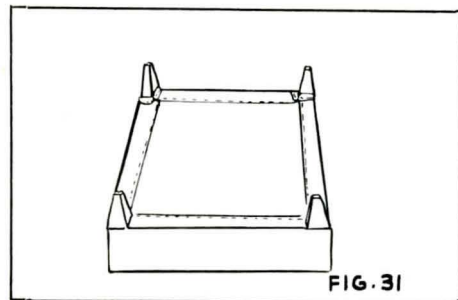

FIG. 31
4. To finish bottom edge of chair, turn the hemmed edge of slip cover under the chair and tack with small upholstery tacks or sew to the cambric which covers the springs. (Fig. 31)